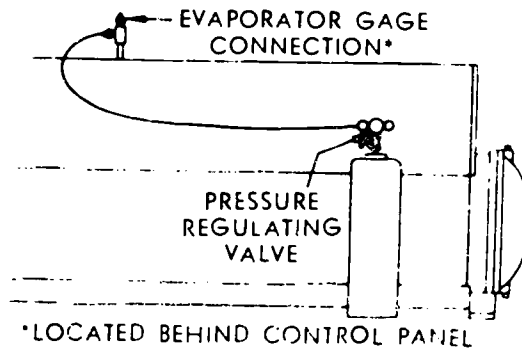

Figure 8. System Pressurizing
- ___ Pipe a drum of R-113 to charging valve as shown in figure 8.
___ Connect a line to the oil charging valve. Figure 8.